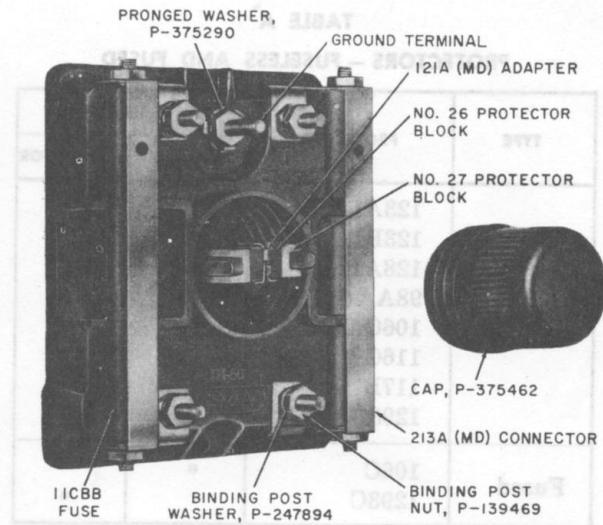

Fig. 6—98AA (MD) Protector
2.03 The 98AA (MD) protector (Fig. 6) provides protection for one pair of wires served from grounded metal sheath cables. It is not to be used at stations served by open wire.